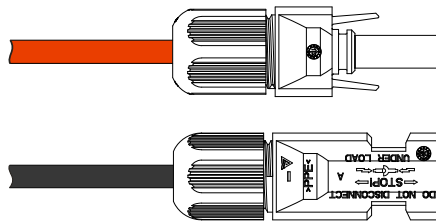

Figure3-41 Tighten the sealing nuts
- Step 4 Tighten the sealing nuts of positive connector and negative connector to the corresponding insulation crusts respectively, as shown in Figure3-41.